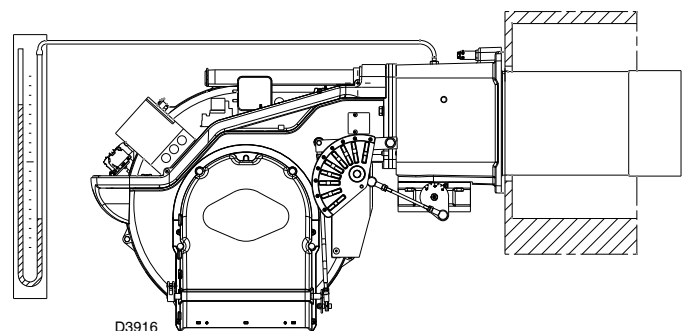

Fig. 35
- Fit a U-type manometer (Fig. 35) to the gas pressure test point on the sleeve. The manometer readings are used to calculate the MAX. burner power using the Tab. N at page 24.
The arrival of gas at the sleeve is indicated by the U-type manometer (Fig. 35).
A guideline indication can be calculated from the Tab. N at page 24, simply read off the gas pressure on the U-type manometer, see Fig. 35 at page 28, and follow the instructions on pag. 24.